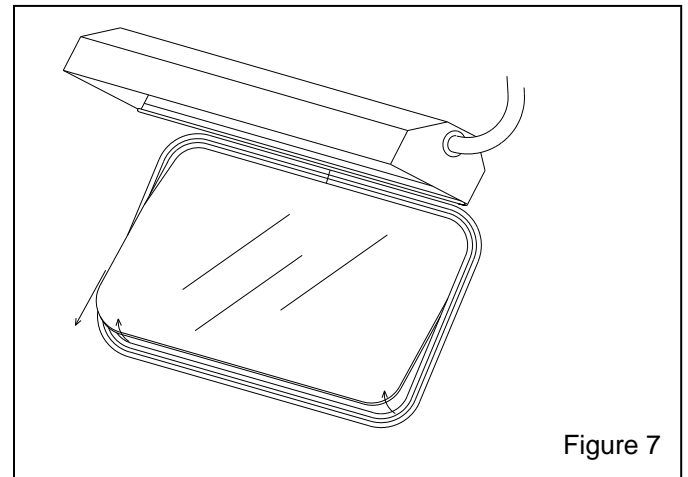

Figure 7
**6.3.3** Place an arm into a glove, and push the bottom edge of the window out of the molding, as shown in Figure 7, while supporting the top of the window with the other hand.